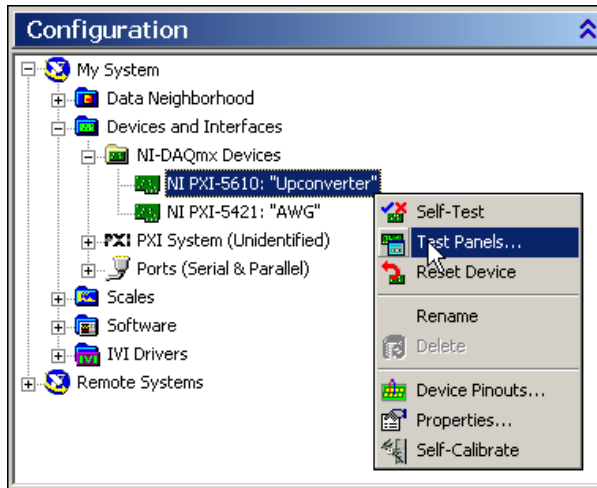

Figure 1-20. Right-Click NI PXI-5610 to Open the NI 5670 Test Panel
18. Right-click the NI PXI-5610 upconverter module and select **Test Panels** as shown in Figure 1-20.